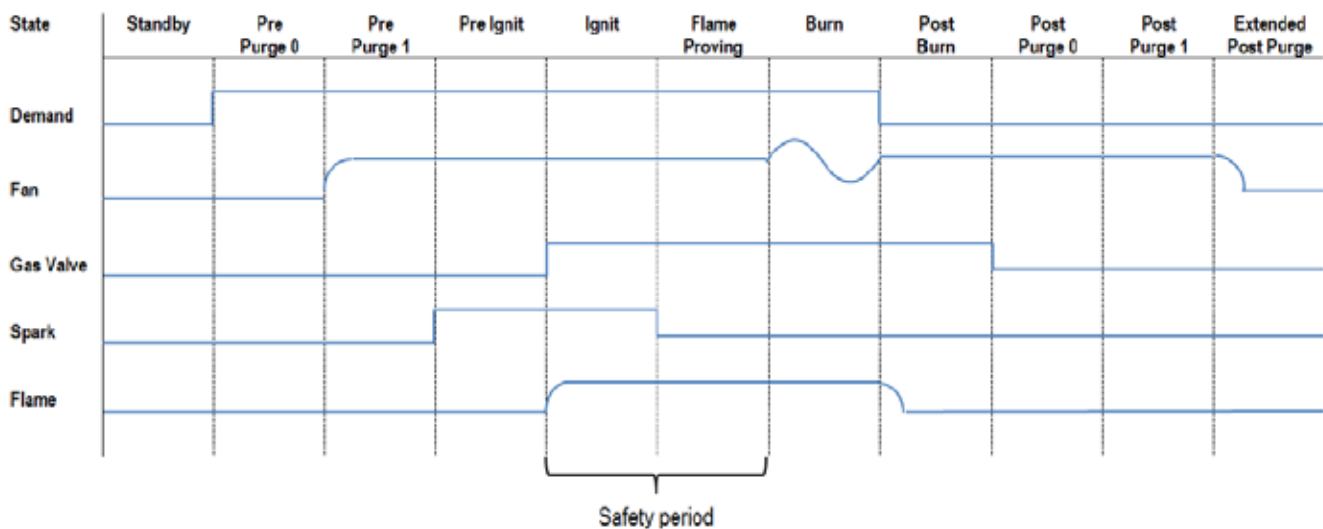

Figure 8.4: Ignition Sequence
Figure 8.4 shows a typical ignition and burn cycle for the Series PBC™ boiler. Pre-purge and Post Pure periods are shown in a compressed fashion to show the ignition process in detail.
4. Use the ignition sequence, Figure 8.4 to follow the light off and shutdown sequences and to assist in troubleshooting operation problems. If the boiler does not function properly, consult Section 10, Troubleshooting.